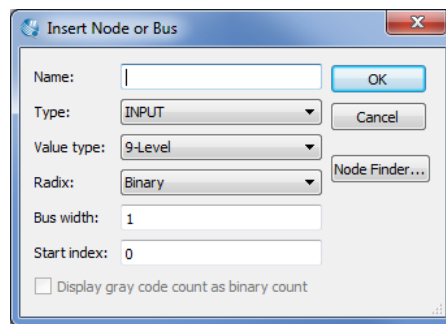
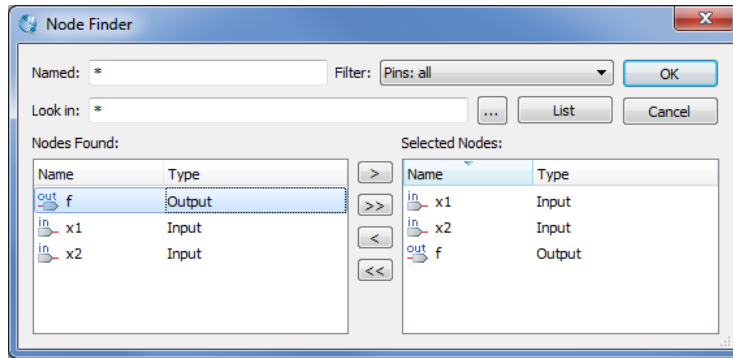
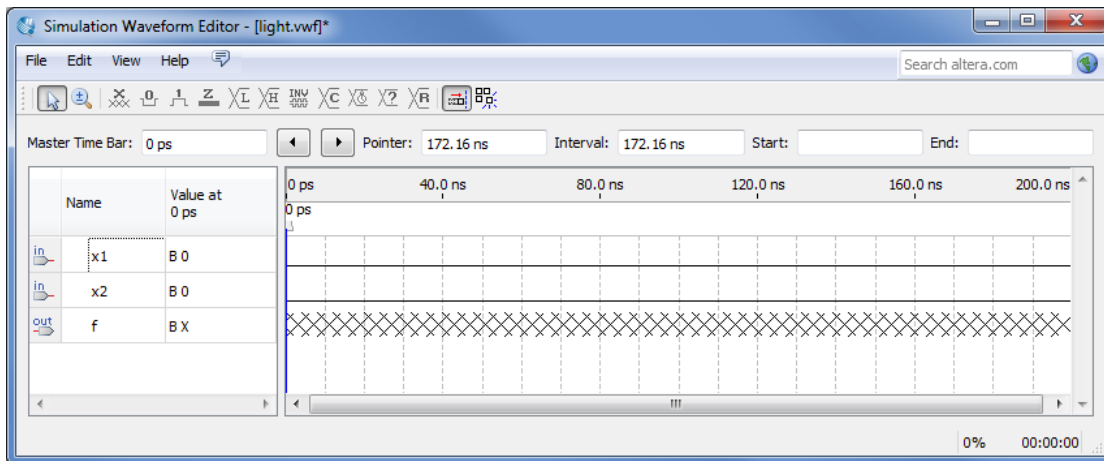

Figure 31. The Insert Node or Bus dialogue.
Figure 32. Selecting nodes to insert into the Waveform Editor.
Figure 33. The nodes needed for simulation.
- Next, we want to include the input and output nodes of the circuit to be simulated. Click **Edit > Insert > Insert Node or Bus** to open the window in Figure 31. It is possible to type the name of a signal (pin) into the Name box, or use the Node Finder to search your project for the signals. Click on the button labeled **Node Finder** to open the window in Figure 32. The Node Finder utility has a filter used to indicate what type of nodes are to be found. Since we are interested in input and output pins, set the filter to **Pins: all**. Click the **List** button to find the input and output nodes as indicated on the left side of the figure.
Click on the *x1* signal in the Nodes Found box in Figure 32, and then click the > sign to add it to the Selected Nodes box on the right side of the figure. Do the same for *x2* and *f*. Click OK to close the Node Finder window, and then click OK in the window of Figure 31. This leaves a fully displayed Waveform Editor window, as shown in Figure 33. If you did not select the nodes in the same order as displayed in Figure 33, it is possible to rearrange them. To move a waveform up or down in the Waveform Editor window, click within the node’s row (i.e. on its name, icon, or value) and release the mouse button. The waveform is now highlighted to show the selection. Click again on the waveform and drag it up or down in the Waveform Editor.